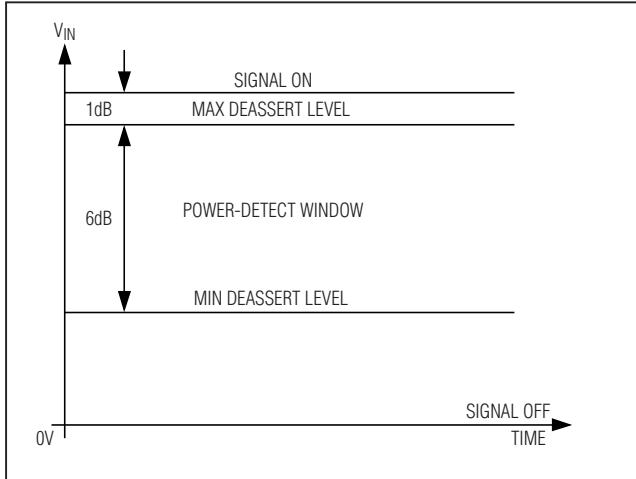

图2. LOS解除报警门限设置，比最小接收灵敏度低1dB(针对所选RTH)
**Note 8:** The signal at the input is switched between two amplitudes, Signal\_ON and Signal\_OFF, as shown in Figure 2.